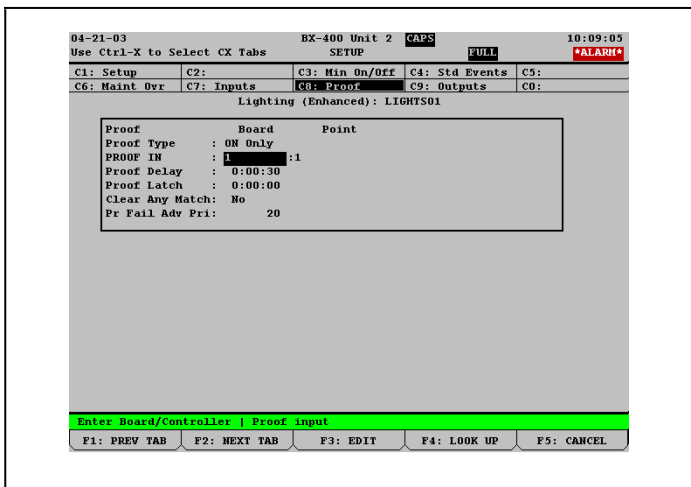

Figure 5-3 - Lighting Proof Setup Screen
- Under the **C1 : Setup** tab, set **Enable Proofing** to **Yes**. (**C8:Proof** tab becomes visible once you cursor across the tabs. See Figure 5-3.)